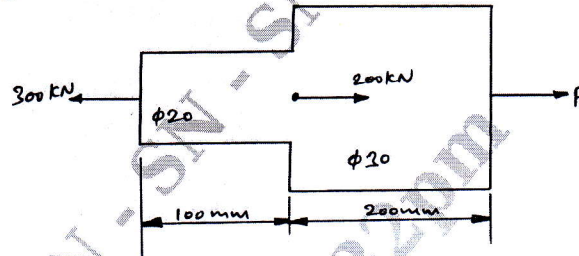

Fig.Q2(a)
- 2 a. Determine the stress in different segments of a circular bar shown in Fig.Q2(a). Also compute the total elongation of the bar if $E = 200 \text{ GPa}$.